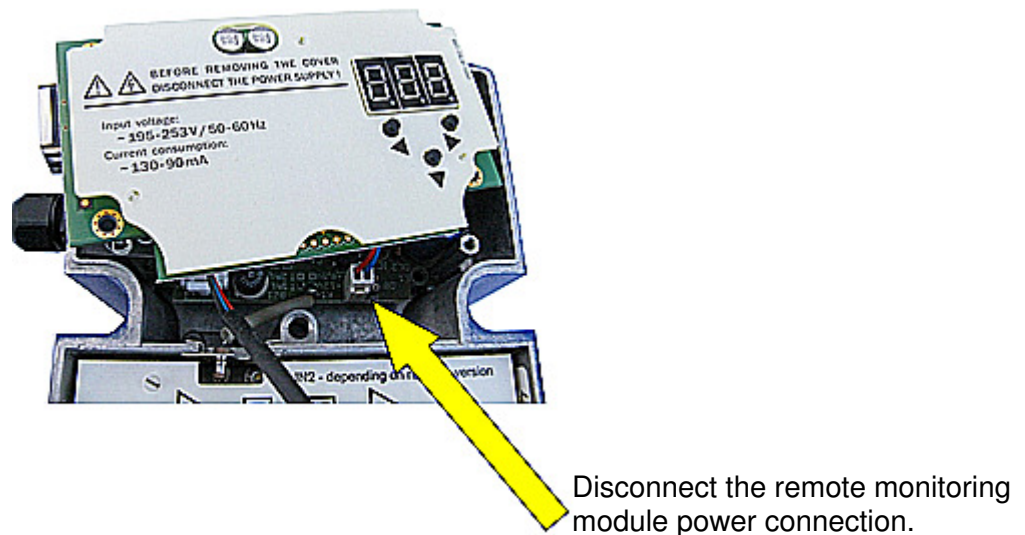

Fig. 8.12. Replacing a fuse in the MOB-729 - step 3.
- remove the power unit enclosure or the M-729 monitoring module, depending on factory fitted options. While removing the remote monitoring module, switch off its power supply through disconnecting - see fig. 8.12,
- Fig. 8.12. Replacing a fuse in the MOB-729 - step 3.